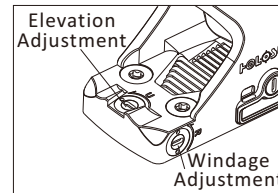

Fig 7
3) Adjustment can be performed by inserting the flat tipped end of the included tool into the turret slot and rotating, See Fig 7.